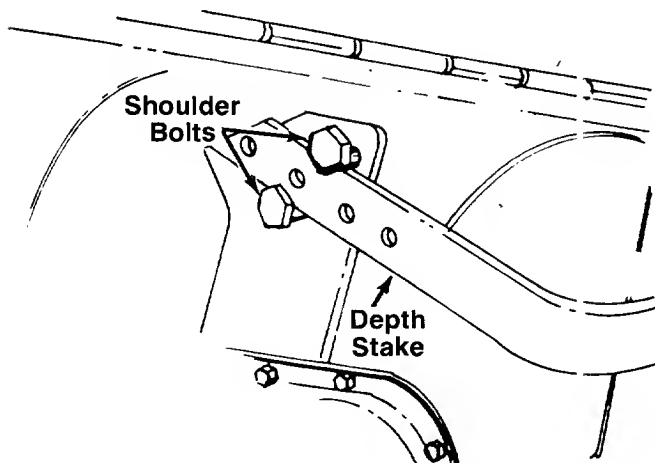

FIGURE 3.
1. Raise the tine shield hinge flap assembly. Insert the depth stake assembly (AD) between the two shoulder bolts and up through the tine shield assembly as shown in figure 3.
For clarity, figure 3 was taken with tiller raised on end. It is not necessary to raise the tiller.